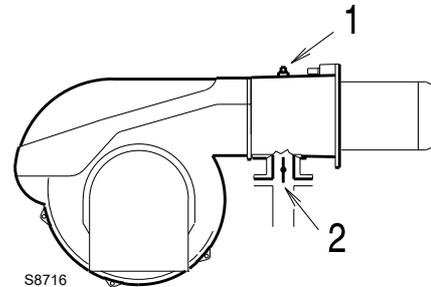

Fig. 26
Gas pressure measured at the test point 1)(Fig. 26), with:
Pressure loss at gas butterfly valve 2)(Fig. 26) with maximum opening: 90°.
- Subtract the combustion chamber pressure from the gas pressure measured at test point 1)(Fig. 26).
$$\begin{aligned} \text{Gas pressure at test point 1)(Fig. 26)} &= 17.0 \text{ mbar} \\ \text{Pressure in combustion chamber} &= 3.0 \text{ mbar} \\ 17.0 - 3.0 &= 14.0 \text{ mbar} \end{aligned}$$
To know the required gas pressure at test point 1)(Fig. 26), set the maximum output required from the burner operation, then:
- Read, on the right (column 1) the socket pressure 1)(Fig. 26).
pressure required at test point 1)(Fig. 26).
- Bleed the air from the piping of the gas train, connecting a plastic tube to the pressure test point 1)(Fig. 26) of the minimum gas pressure switch. Take the vent tube outside the building so you can notice the smell of gas.